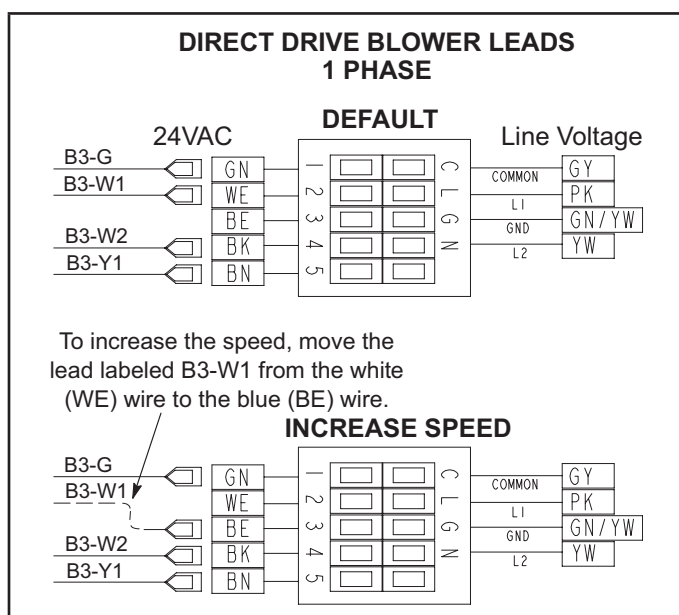
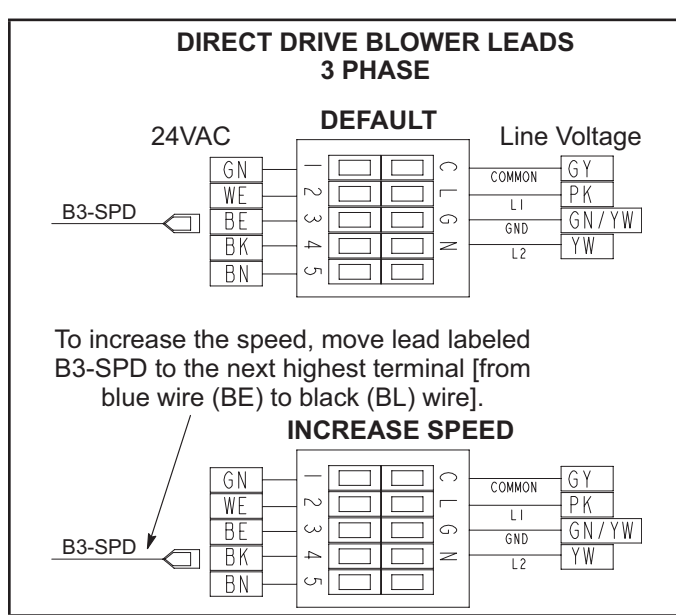

FIGURE 14
FIGURE 15
- 2 - If the design CFM is too low, use FIGURE 14 or FIGURE 15 to move the control lead to a higher setting.